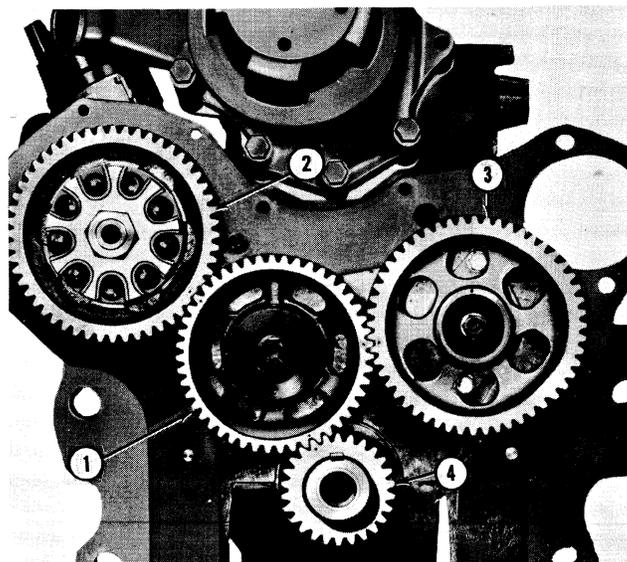

Figure 22
1. The timing gears are shown in Figure 22. The gears are correctly assembled when the timing marks on the gear teeth line up, as shown in the illustration, with the No. 1 piston on T.D.C.
1. Retime the engine before installing the injection pump. To do this remove the camshaft drive gear, place No. 1 piston at top dead center, and reinstall the camshaft drive gear in mesh and the timing marks aligned to the other gears as shown in Figures 22 and 24. Tighten the camshaft drive gear adapter bolt to the specified torque, page 68.